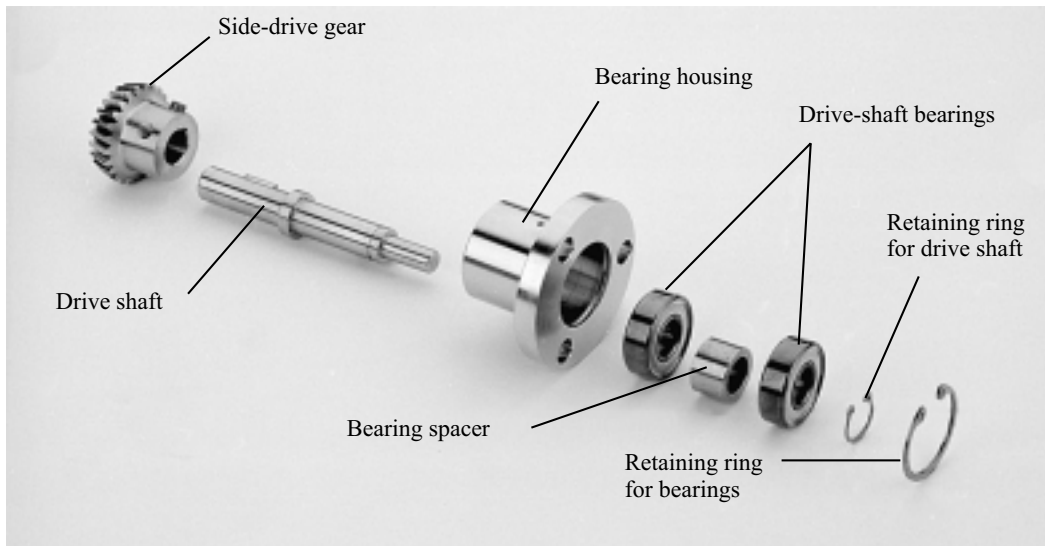

Figure 6-34. The parts of the drive shaft assembly laid out in order of reassembly
Follow the steps described below and refer to Figure 6-34 when reassembling the drive shaft assembly.
Step 2: Put the two bearings and the spacer in place inside the drive-bearing housing. Figure 6-34 shows the correct order and orientation for reassembly of these parts. Note that the bearings and their spacer will only fit into one end of the bearing assembly.